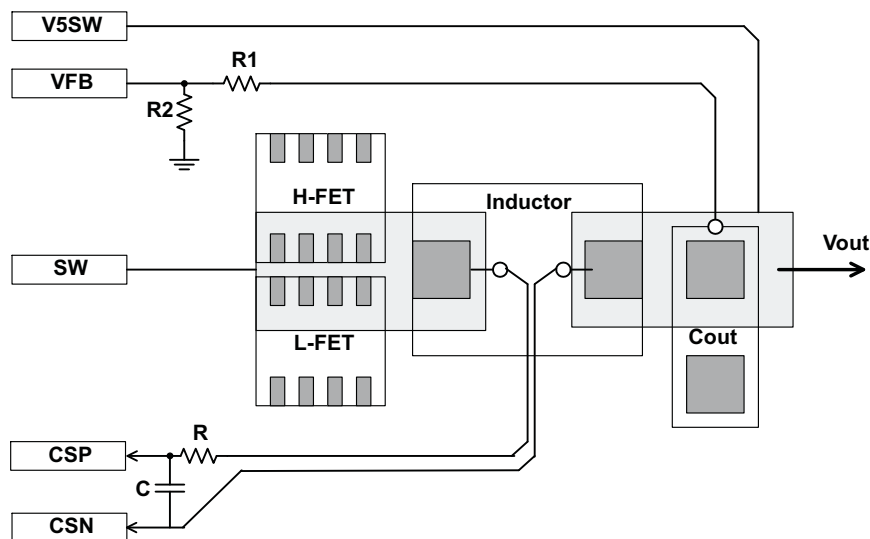

Figure 47. Sensing Trace Routings
- Use separate traces for: (see Figure 47)